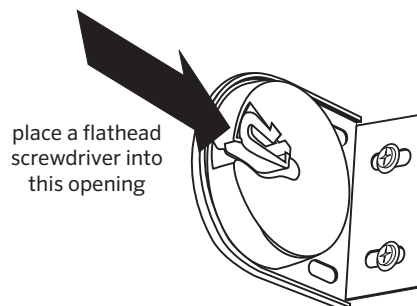

Fig. 2
a. Place a flathead screwdriver into the opening and press gently and it will release the tube from the brackets. (fig. 2)
a. Insert the open loop on the crank (fig. 1) into the loop of the shade (fig. 2).